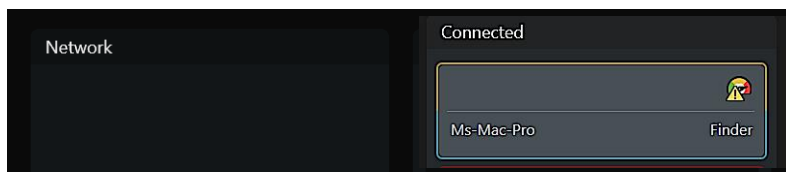

Figure 26. Workstation network connection interrupted
**Network Connection Interrupt** A connection to a workstation is experiencing either a dropped network packet, CPU or memory overload (indicated with the "interrupt" icon shown in Figure 26). Press the **Graphs** option at the bottom of the screen to see the issue.